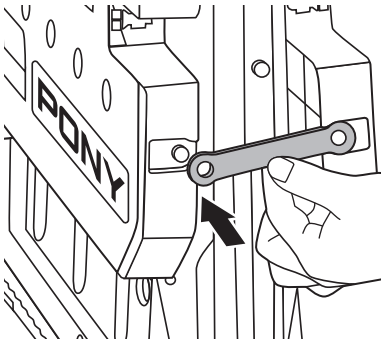

Figure 16
3. Use the safety straps to fix the table on both sides.(Figure 16)